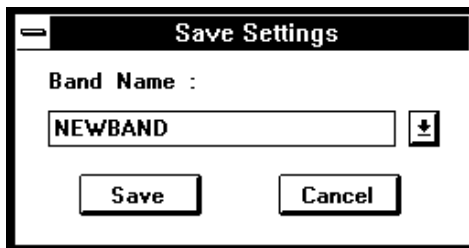

Figure 5-10: Save Settings Dialog Box
1. Click on **Setup** on the Spectrum Analyzer Menu Bar and select **Save...** from the Setup options list to open the Save Settings Dialog Box (Figure 5-10).